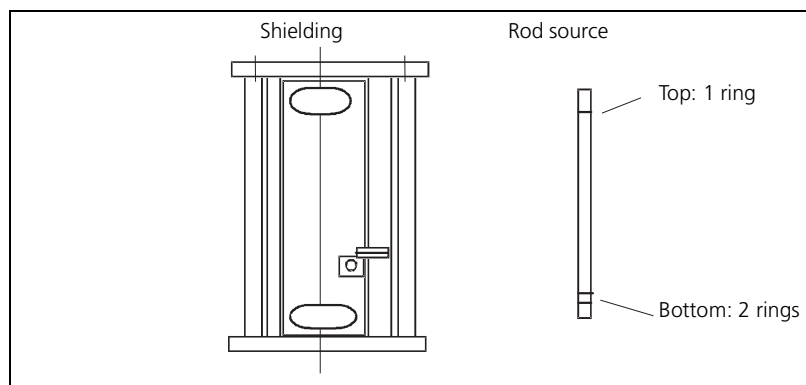

Fig. 10-2 Markings on shielding and rod source
*Check that the sources are installed in the proper position. Note the respective marking rings on the source (top = 1 ring; bottom = 2 rings (see Fig. 10-2)).*